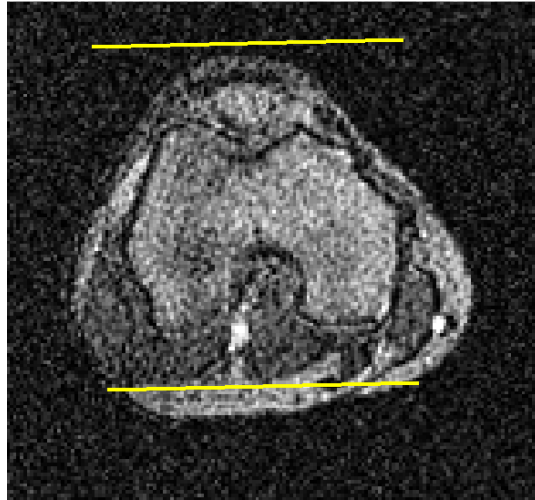

Figure 3
2. Slice coverage must include all of the Femur, including the condyles, Tibia and Patella, as shown in Figure 3